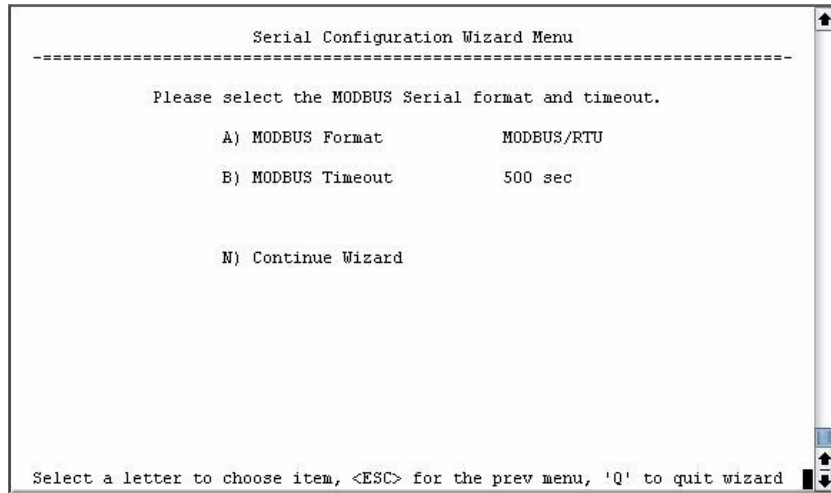

Figure 3-56. Select Data Baud Rate and Byte Format
- When the next screen appears (Figure 3-56), press **A** to select the desired data baud rate and **B** to select the data byte format. Press **N** to continue.